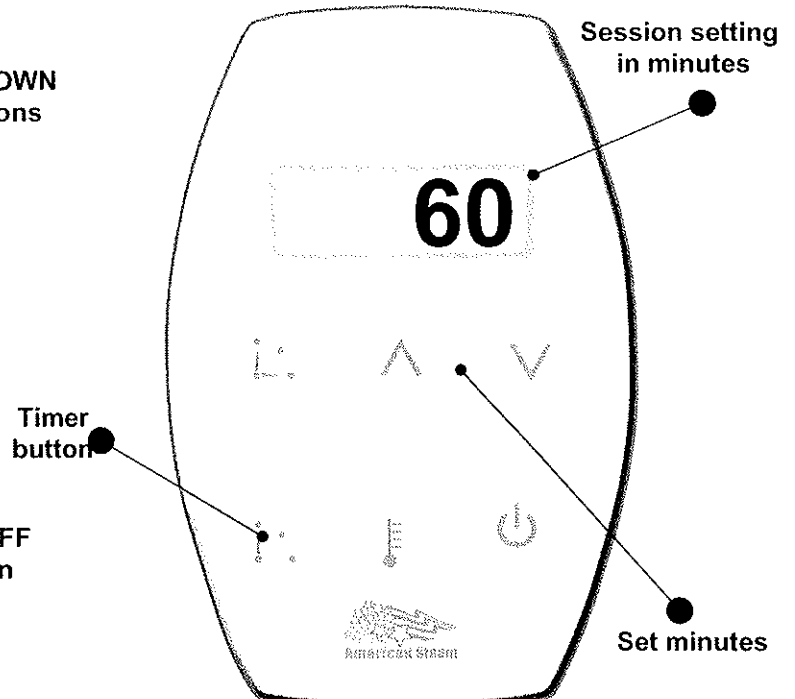

Figure 3
2. **To set the length of the steam shower session**, turn unit on by pressing the on/off button, then press the timer button. The display will show the set time in minutes and will flash. Using the up/down arrows set the session time to your desired length. After 4 seconds of no button pushes, the new setting will be set and stored for your next steam bath session. (See Figure 3.)